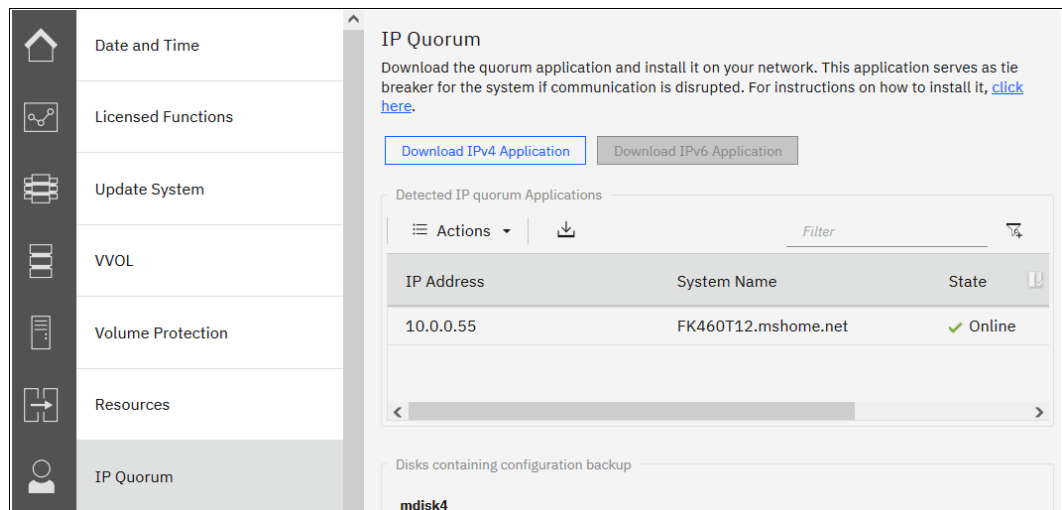

Figure 2-56 IP quorum application that is deployed and connected
4. Check that the IP quorum application is successfully connected and running by verifying its Online status by selecting **Settings** → **System** → **IP Quorum**, as shown in Figure 2-56.